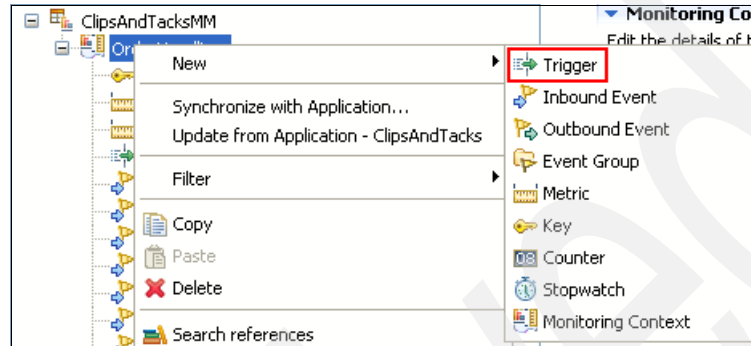

Figure 5-29 Creating a new trigger
1. In the model navigation view, right-click **OrderHandling** and select **New** → **Trigger** (Figure 5-29).